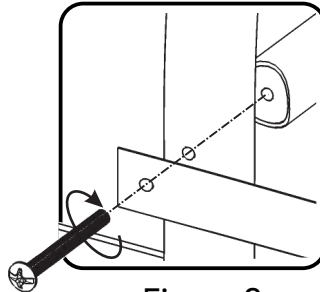

Figure 2
Attach Rail (E) and Stretcher (D) to unit with Bolt (long) and Bolt (short), tightening the bolts only half way. (See Figures 2 and 3)